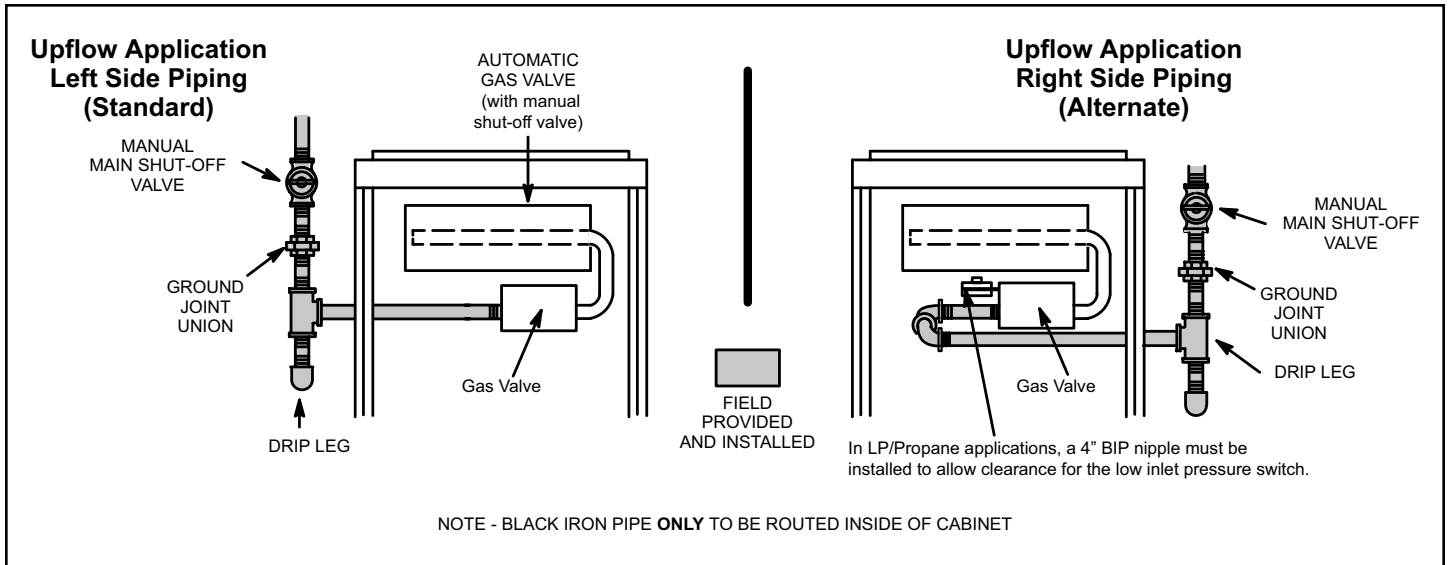
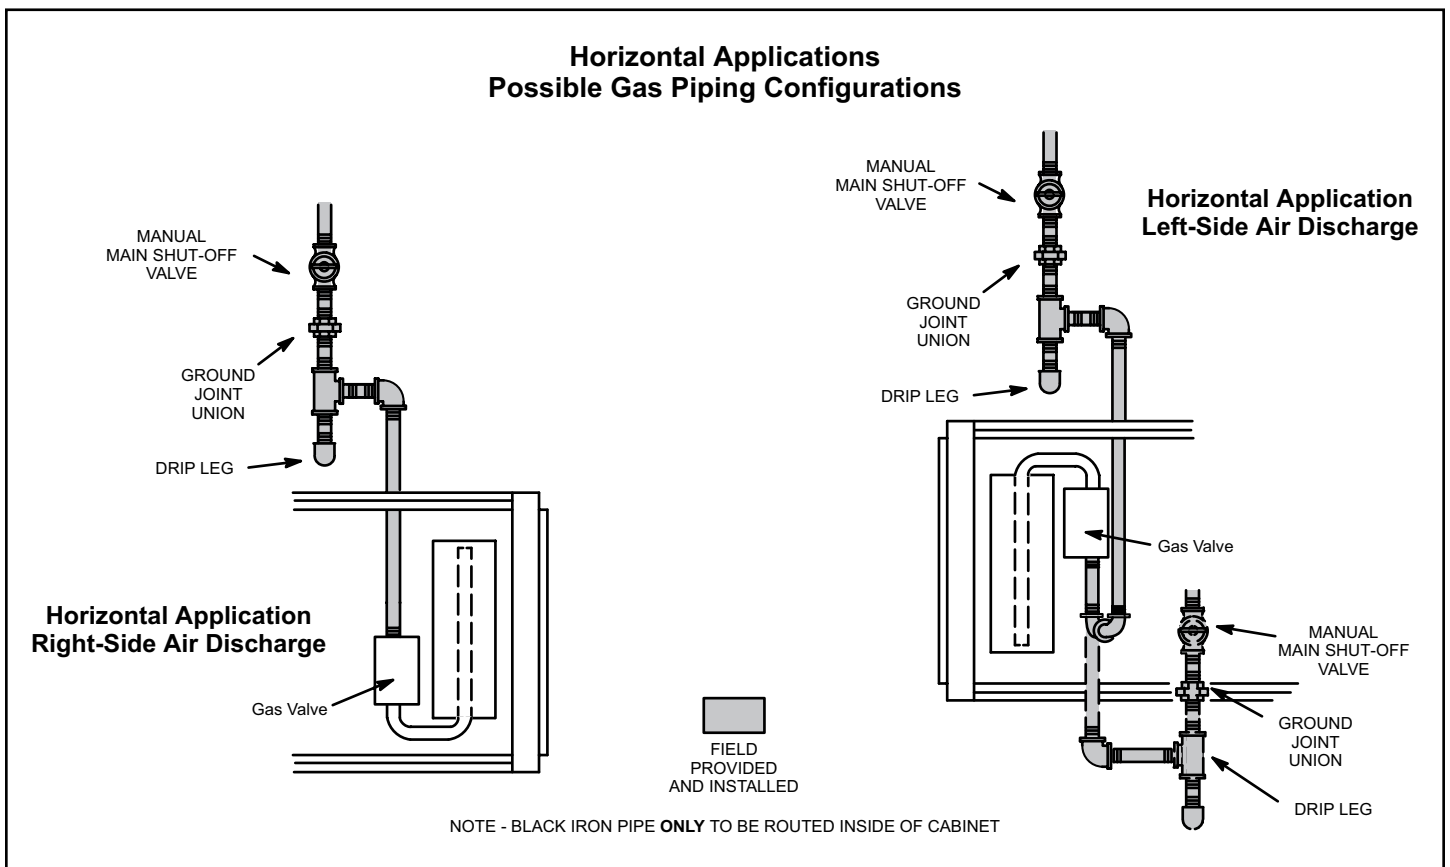

Figure 61. Upflow Applications Possible Gas Piping Configurations
Figure 62. Horizontal Applications Possible Gas Piping Configurations
1. Gas piping may be routed into the unit through either the left or right hand side. Supply piping enters into the gas valve from the side of the valve as shown in Figure 61.
3. Gas piping must not run in or through air ducts, clothes chutes, chimneys or gas vents, dumb waiters or elevator shafts. Center gas line through piping hole. Gas line should not touch side of unit. See Figure 61 and Figure 62.